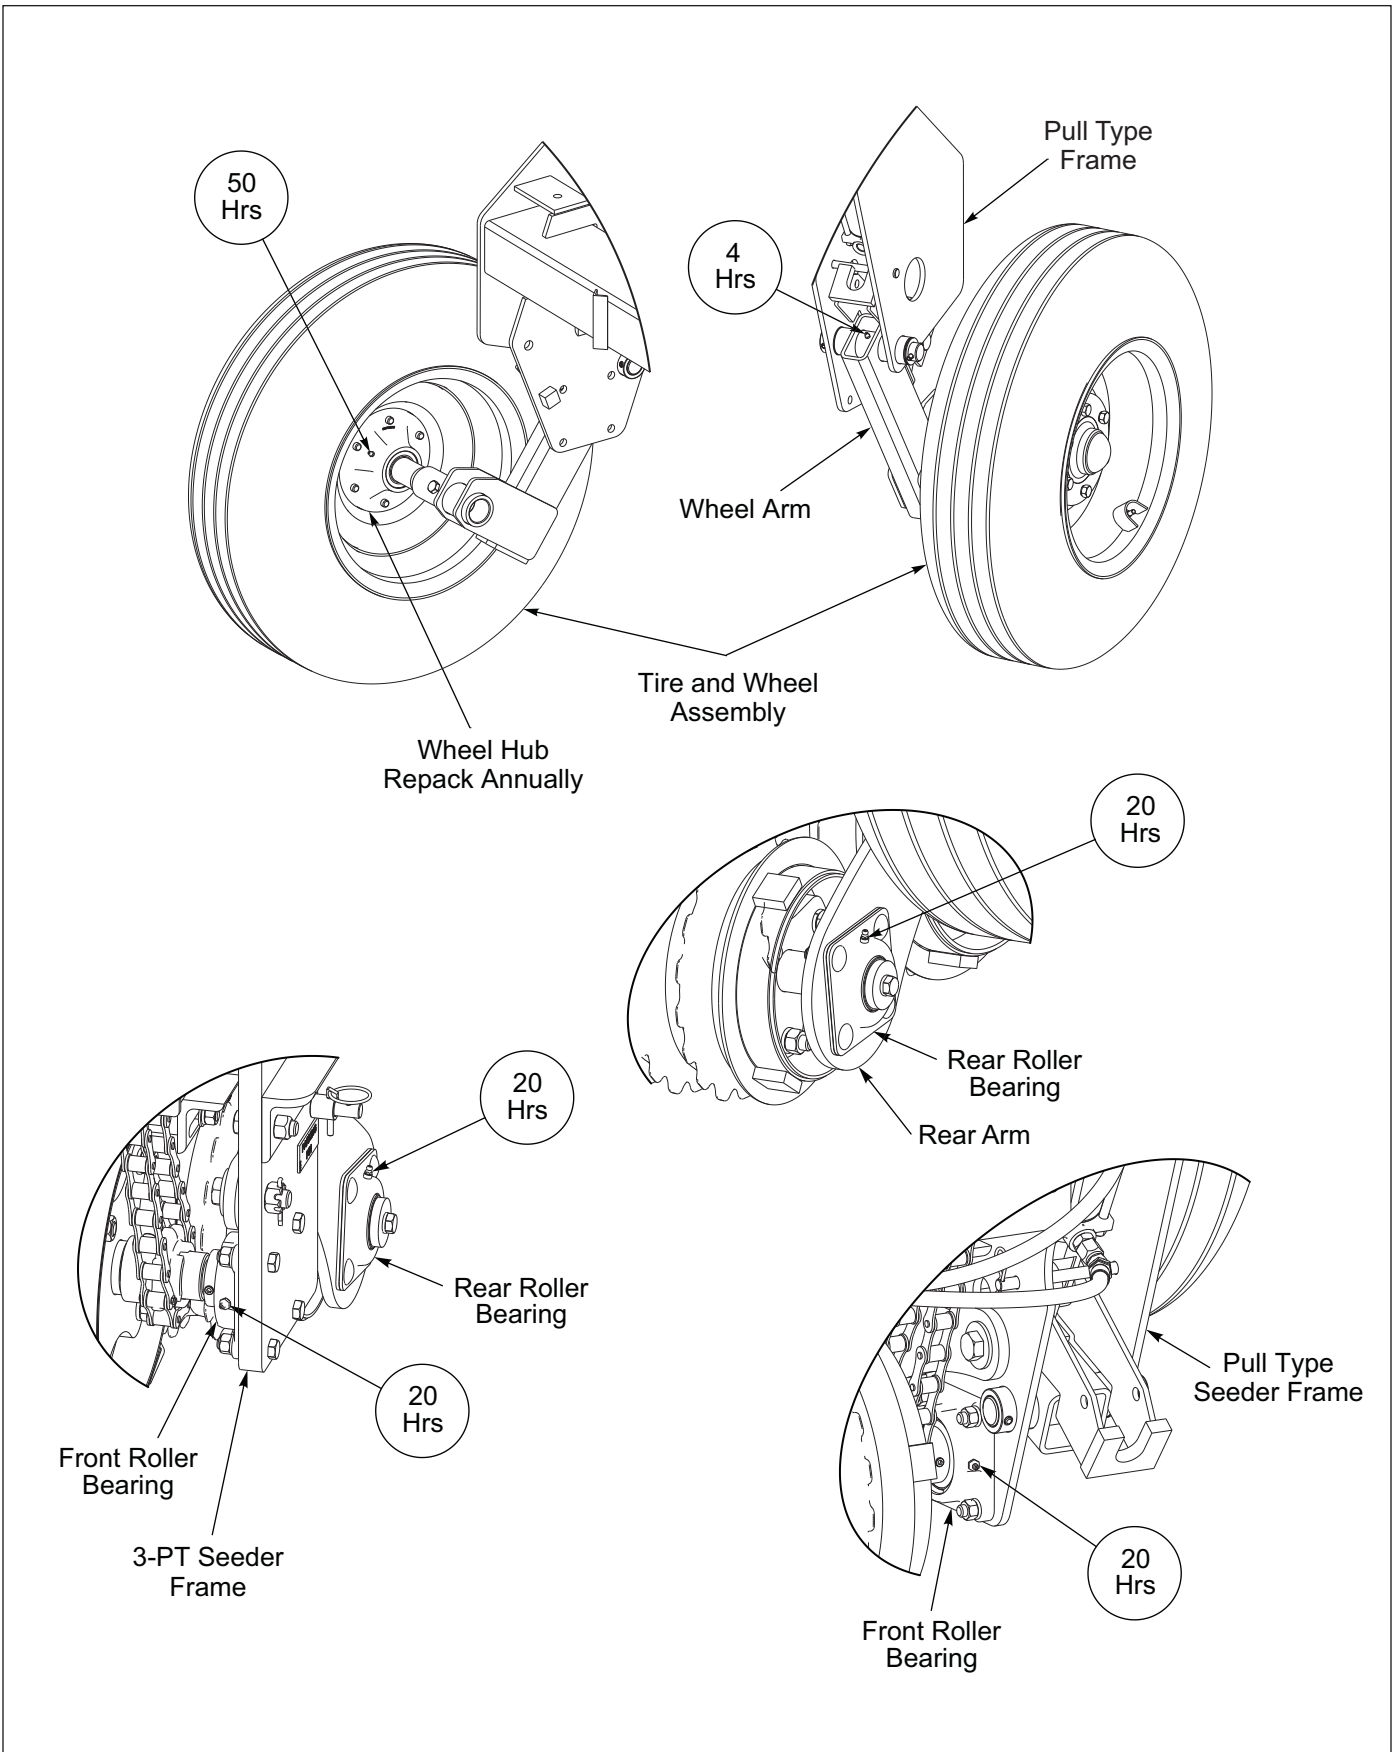

Figure 5-4: Lubrication Intervals
- Seeder has Greaseable Bearings on the ends of the Front and Rear Rollers and should be greased every 20 hrs. **See Figure 5-4.**